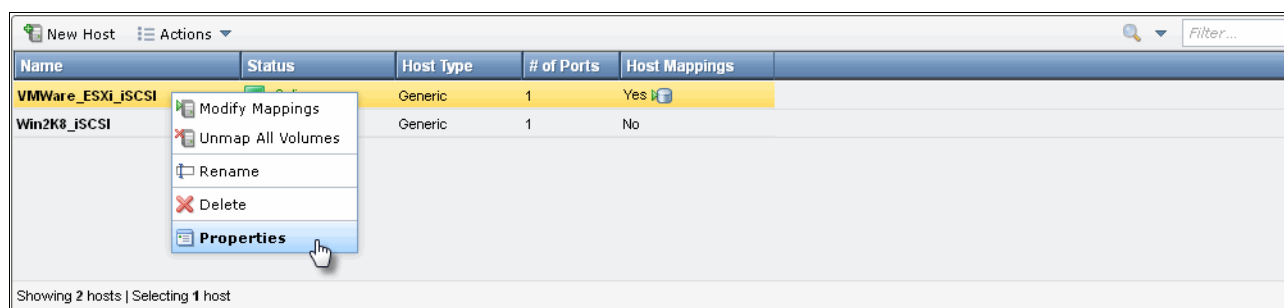

Figure 5-60 Select iSCSI ESX host properties
- Right-click your VMware ESX iSCSI host in the All Hosts view (as shown in Figure 5-60) and select **Properties**.